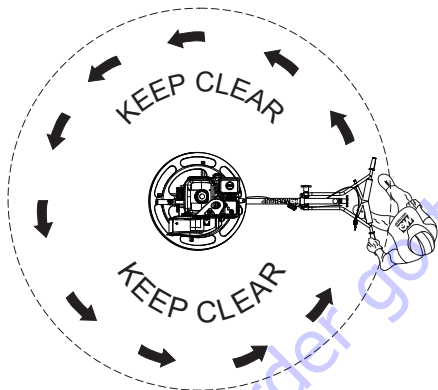

Figure 34. Centrifugal Safety Stop Switch Test TO BEGIN TROWELING
4. Stand behind the handle in the operator's position (Figure 34) and spin the handle to the right, simulating a runaway condition. Centrifugal force should throw the safety switch outward to the **OFF** position, thus shutting off the engine.